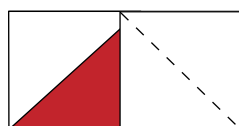
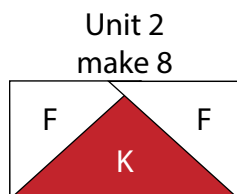

Fig. 6
Fig. 7
3. Place another 3 ½" Fabric F square on the right side of the 3 ½" x 6 ½" Fabric K strip, right sides together (Fig. 6). Sew across the diagonal of the square from the upper left corner to the lower right corner (Fig. 6). Flip open the triangle formed and press. Trim away the excess fabric from behind the triangle, leaving a ¼" seam allowance to make (1) Unit 2 strip (Fig. 7).
4. Repeat Steps 2-3 to make (8) Unit 2 strips total.